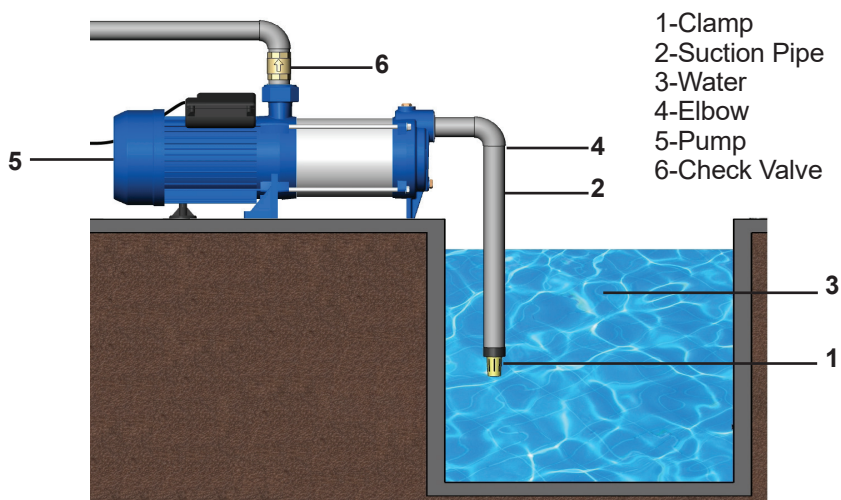
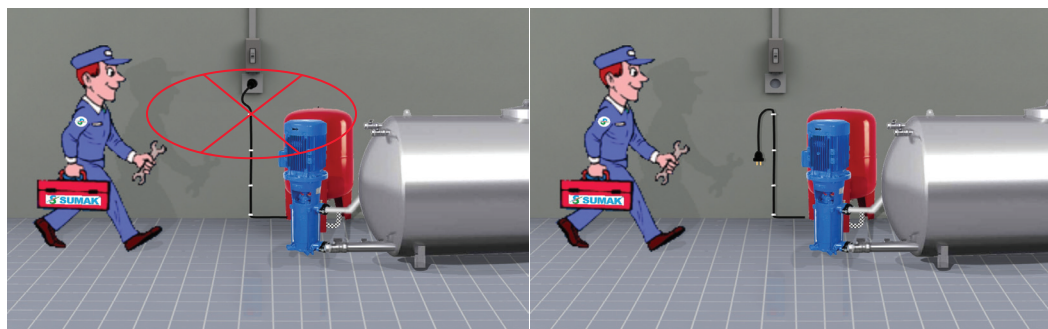

Figure 1
Figure 2
- 11-If the pump is installed below waterline level, check valve must be fitted to the suction house. Please check page 8, figure 1.
31-Please assembly your pump as Page 21 Figure 1.
33- Please check Figure 1 in Page 21 for usage of pump and assembly information while mounting, Figure 2 in Page 23 for electric connection, Figure 3 in Page 26 for life security warnings.